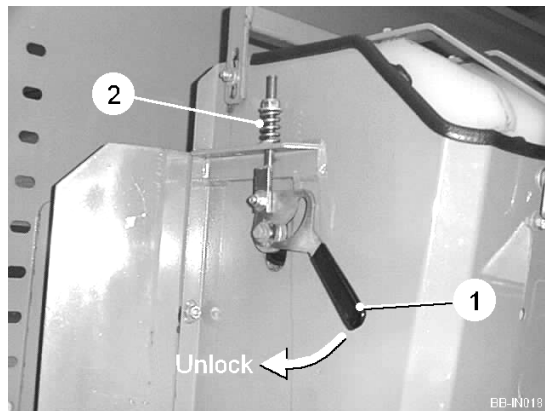

Fig 15
The cup belts pick up the seed from the feeding pocket and transfer them to the ground. Rapid locking brackets (item 1, fig 15) fitted to each of the tunnels keep the cup belts tensioned and also allow maintenance of the cup belts. To slacken the cup belts, push the handles fully down until hanging loose. Each belt is tensioned by two spring adjusters (item 2, fig 15) which when tensioned correctly avoid slipping of the belt around the top and bottom rollers. Always adjust both sides evenly.